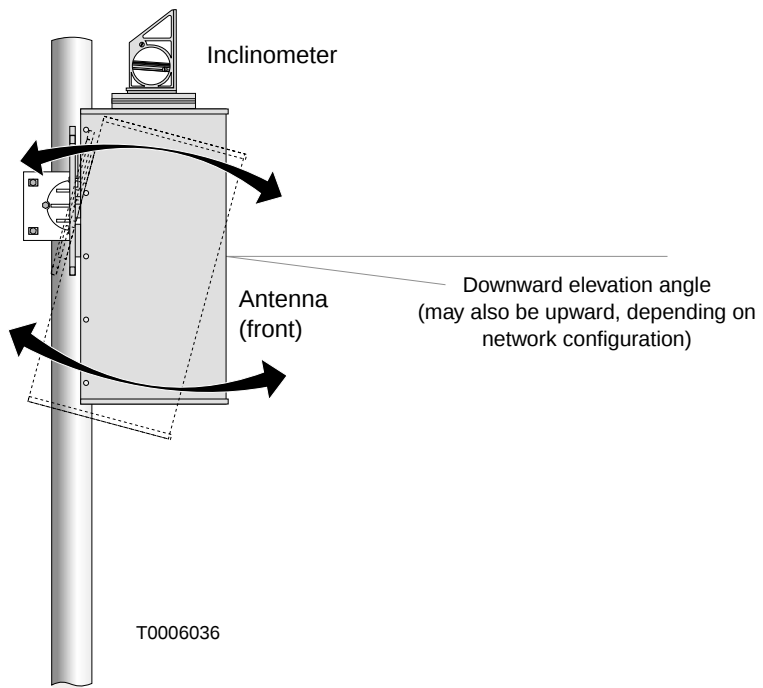

Figure 4-16 Inclinometer on top of the antenna
2. Place an inclinometer on the top surface of the antenna, as shown in figure 4-16.